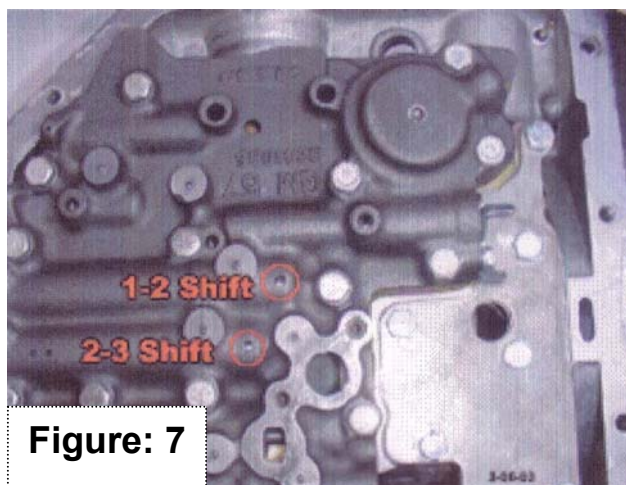

Figure: 7
Step 7: Note position of the 1-2 & 2-3 shift holes in valve body, (Figure 7).